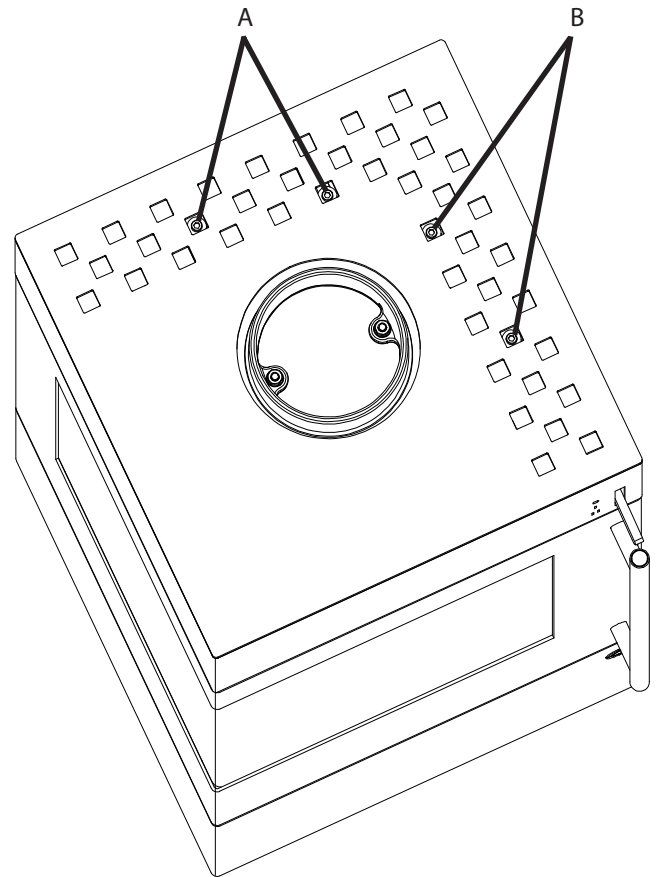

Fig.1
- Loosen the fastening screws (A) for the back panel and the fastening screws (B) for the side panel on the unit (by no more than 2 turns, see Fig.1).